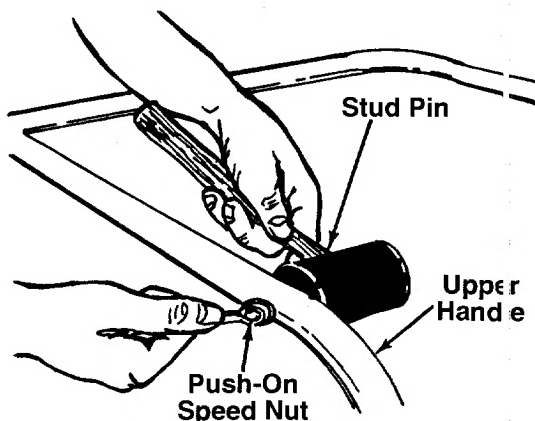

FIGURE 8.
1. Place the stud pins in holes in upper handle (head of pins go to the inside of handle). Secure pins with push-on speed nuts by holding speed nut with box wrench and tapping pin with hammer. See figure 8.